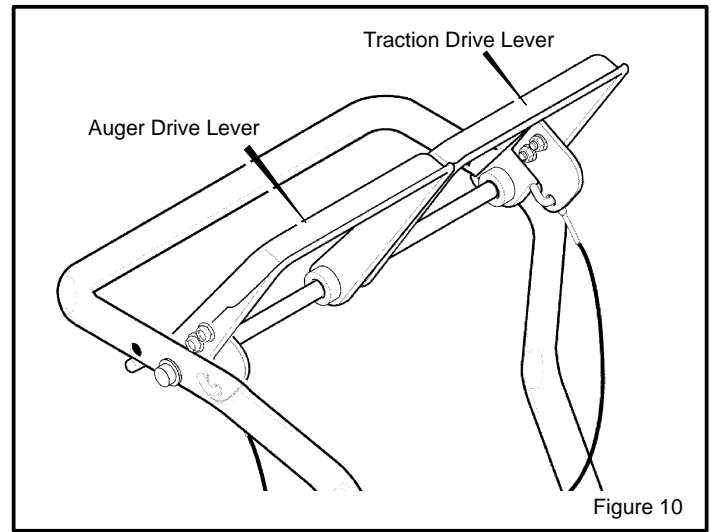

Figure 10
1. To stop throwing snow, release the **auger drive lever**. (see Figure 10).
3. Engage the **traction drive lever** (see Figure 10). As the snowthrower starts to move, maintain a firm hold on the handles and guide the snowthrower along the cutting path. Do not attempt to push the snowthrower.
1. Push down the auger driver lever (right hand). See Figure 10.